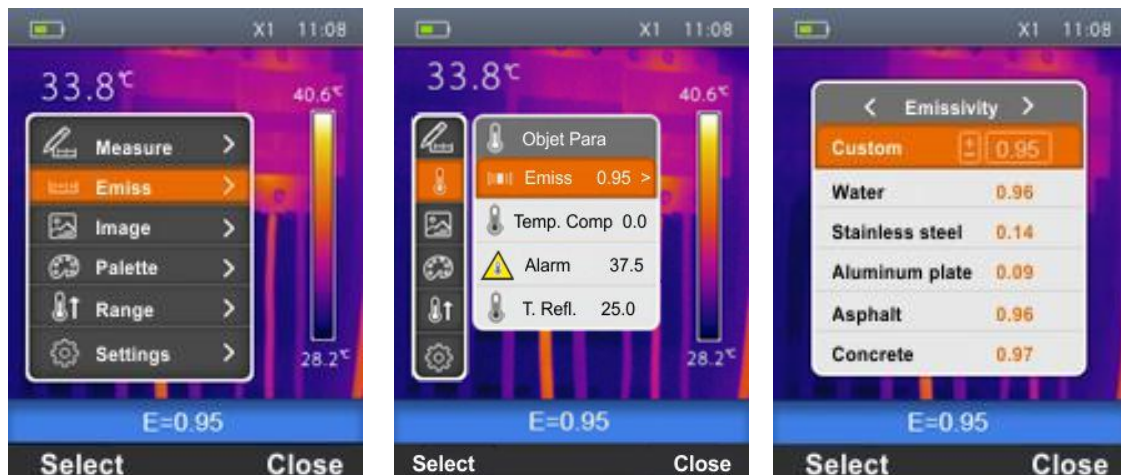

Fig. 18: Setting Emissivity on the instrument
1. Select the item "Emiss" with the keys \oplus or \ominus and press the key \Rightarrow . The screen Fig. 18 – Central part is shown on the display.
1. Use the keys \oplus or \ominus to select the item "Emiss" and press the key \Rightarrow . The screen Fig. 18 – Right side is shown on the display